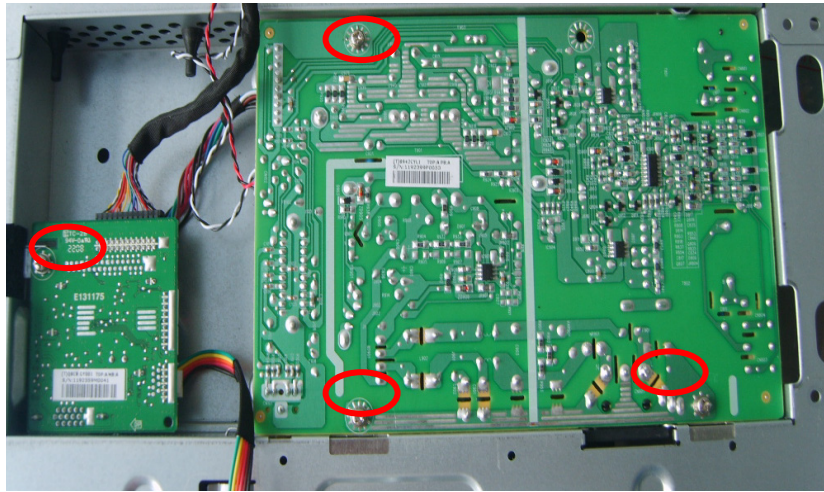

Fig 10
4. Remove the screws marked in red and the wire connect with power board to remove the boards. (Fig 10,11)